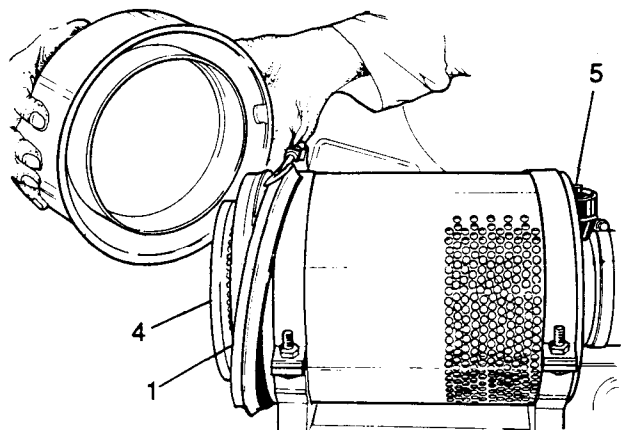

Fig G3.2
- (1) Refer to Fig G3.2. Unscrew the bolt holding the dust cup clamp (1). Remove the clamp and the dust cup.
- (2) Lift the baffle out of the dust cup.
- (3) Unscrew the wing nut and pull the element (4) and its gasket clear of the body assembly.
- (4) Inspect the new element for shipping or storage damage. Do not use the element if it has been damaged. Do not use the element without a gasket.
- (5) Clean the body with a damp, lint-free cloth. Fit the gasket and element into the body and secure with the wing nut.
- (6) Fit the baffle into the dust cup.
(7) Fit the dust cup to the body and secure with the clamp.
- (8) Reset the indicator to show green by pressing the button (5) on top of the indicator.